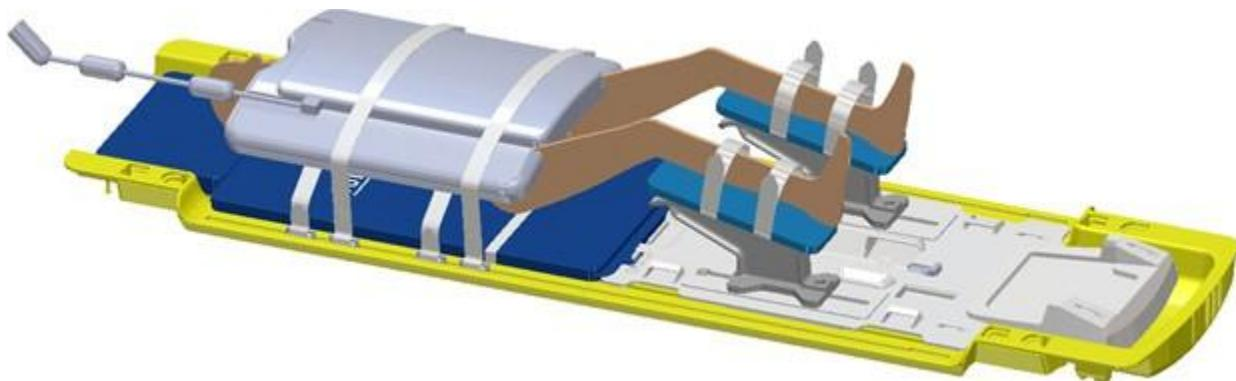

Figure 27: Placement of the anterior imaging coil
3. **MRI Technologist:** Strap the anterior imaging coil over the patient's pelvis and arms. The coil should cover the prostate, without interfering with the travel of the Positioning System (*Figure 27*).